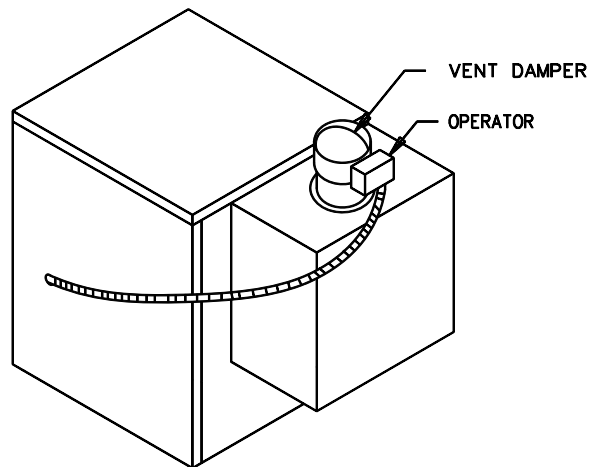

Figure 1. Vertical Installation of Vent Damper on Sentry "S" Boilers
3. Select a proper, convenient location for vent damper. Vent damper may be installed vertical or horizontal on all models (see figures 1 and 2).
B. 1. This device must be installed after the boiler draft hood (between the draft hood outlet and the connector to the outdoor chimney or vent) as close to the draft hood as practicable, and without modification of the draft hood or the vent damper. (See figures 1, 2 and 3.)